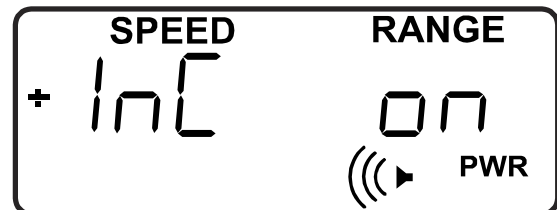

Figure 9
- ☐ Inclement Weather/Obstruction Mode (Figure 9)